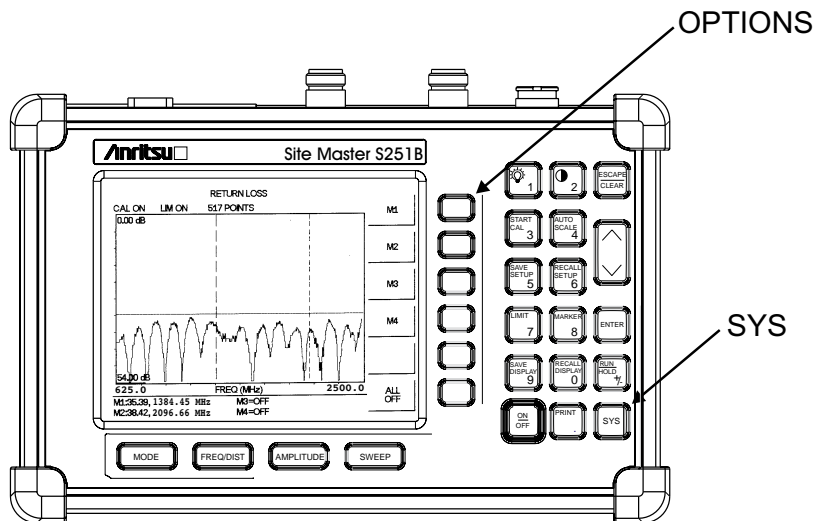

Figure 3-14. SYS Key and OPTIONS Soft Key
**Step 3.** Press the **SYS** key and the **OPTIONS** soft key (Figure 3-14).